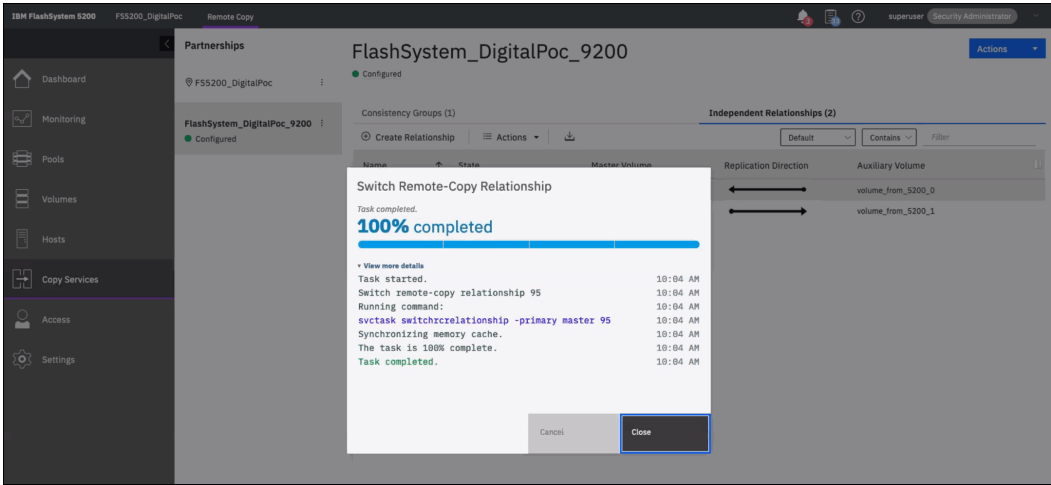

Figure 8-35 Successful completion of switch relationship for one volume
8. Click **Yes** to proceed to the successful completion of the role reversal, as seen in Figure 8-35.